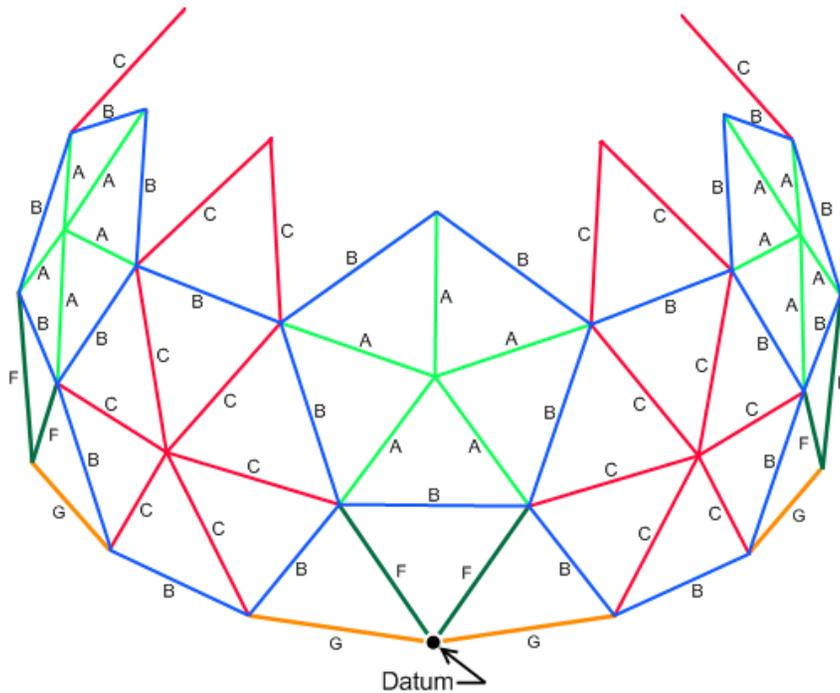

Figure 9 - Completing pentagons and adding triangles to cross struts.
- Count out 10 B's, and 10 C's. In this step you will insert struts in a zigzag, B - C - C - B pattern, starting at the top of the vertical A strut above the datum. The first B strut should be connected to the top of the A strut, then swiveled so that it points diagonally downward to the right, and connected at its other end to the nearest joint. See Figure 9.